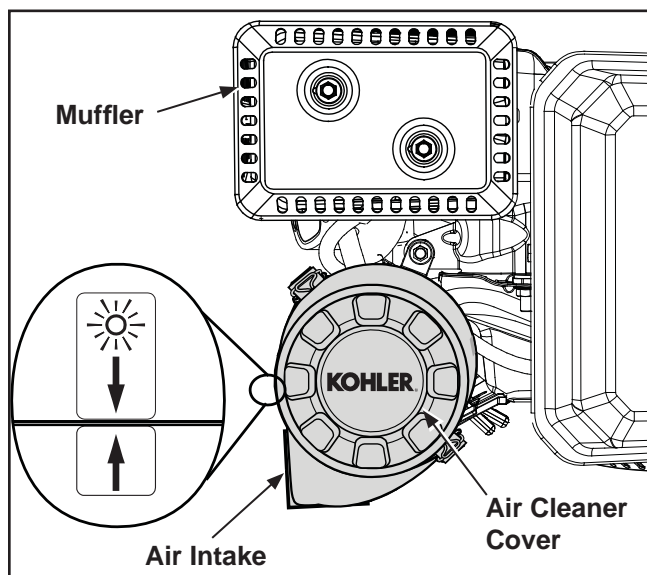

Figure 4-3. Normal Operation Position of Air Cleaner Cover.
- a. For Normal Operation conditions, see Figure 4-3.